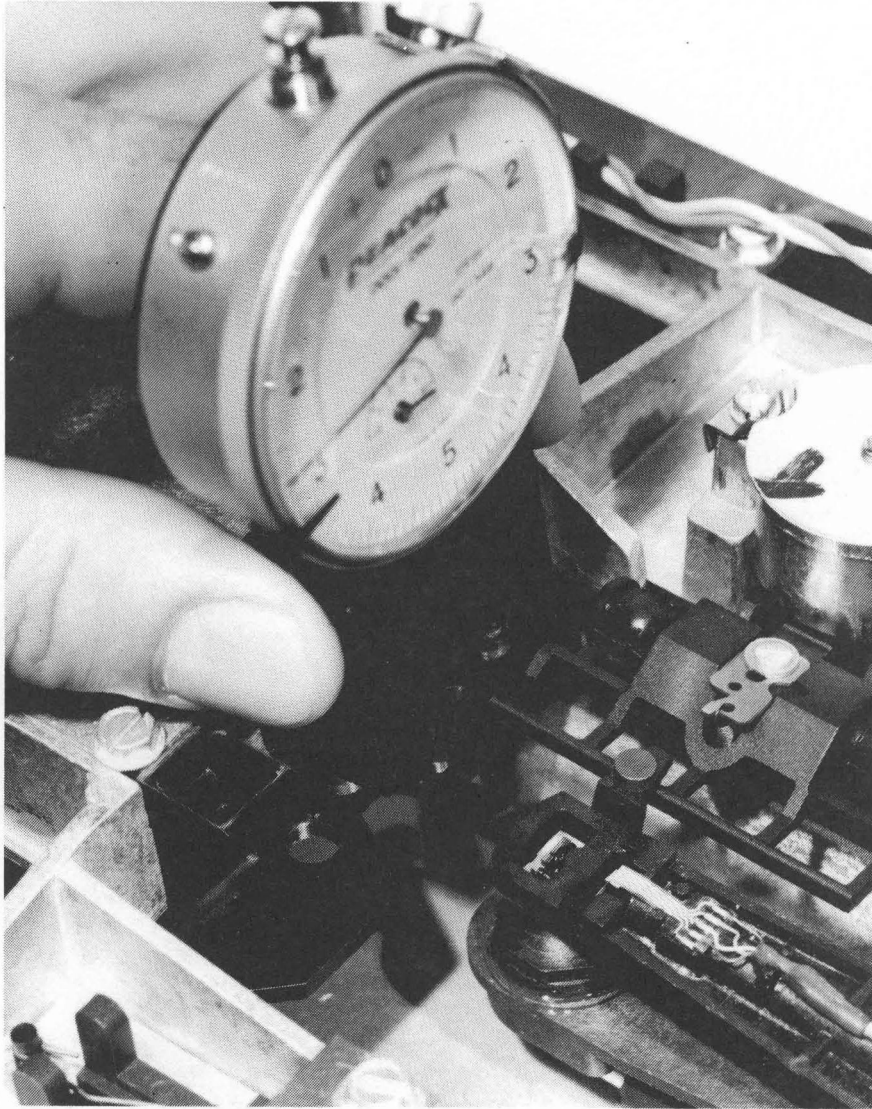

FIGURE 41. DIAL INDICATOR INSTALLATION
- d. Next install the indicator block into the penetration plate until you feel the block snap into place. See Figure 41.